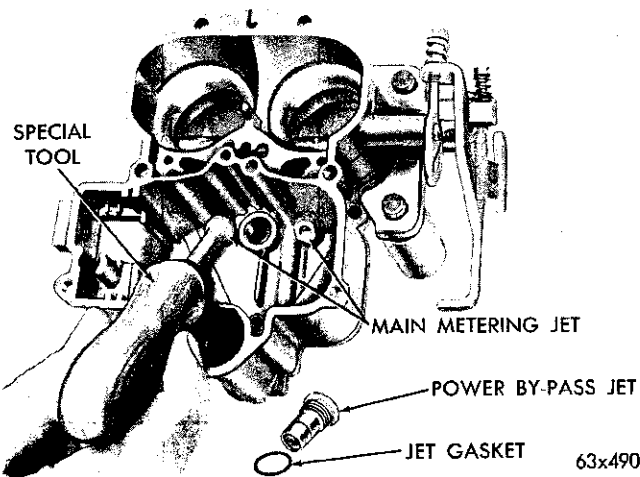

Fig. 8—Removing the Main Metering Jets
(6) Using Tool T109-173, remove the two main metering jets, as shown in Figure 8.
(7) Remove the two air horn screws used to hold the main and throttle bodies together. Separate the throttle and main bodies.
(1) Place a new gasket on the throttle body, then install main body. Install two short screws to secure.
(2) Install the main metering jets in the main body. Tighten securely, using Tool T109-173 (Fig. 8).